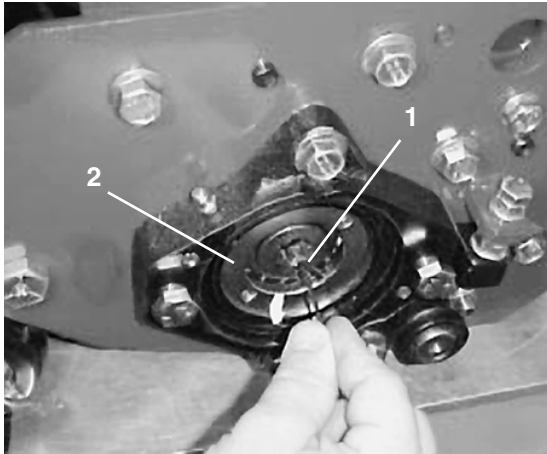

Figure 23
- A. Loosen the set screw securing the bearing adjusting nut to the bearing housing located on the left side of the cutting unit (Fig. 23).